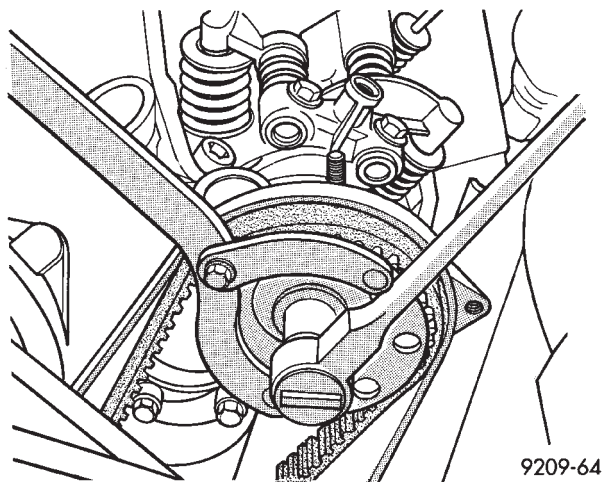

Fig. 15 Camshaft Sprockets
(1) Hold camshaft sprocket with Spanner Tool MB990775 loosen and remove bolt and washer (Fig. 15).
(2) Remove camshaft sprocket from camshaft.
- (1) Place camshaft sprocket on camshaft.
- (2) Install bolt and washer to camshaft. Using Spanner Tool MB990775 hold camshaft sprocket and torque bolt to 95 N•m (70 ft. lbs.) (Fig. 15).